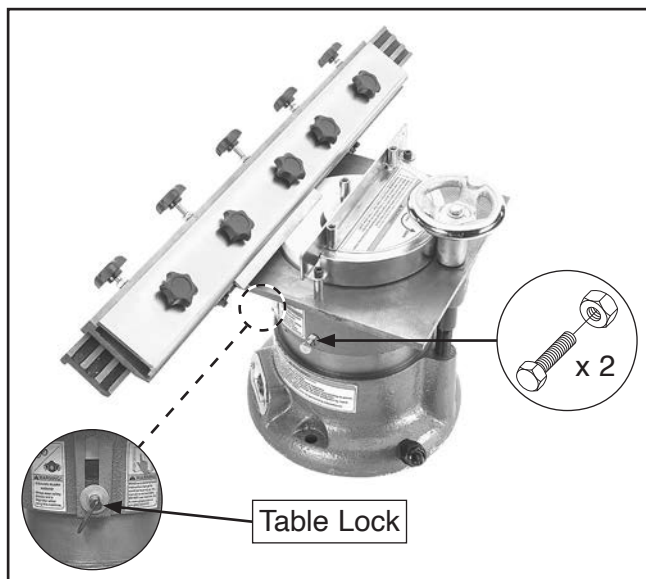

Figure 22. Slide bar assembly and knife mounted on grinder.
9. Carefully place slide bar assembly on slide table, as shown in **Figure 22**, loosen table lock and (2) table hex bolts and jam nuts, then use table handwheel to lower table until wheel just makes contact with knife.